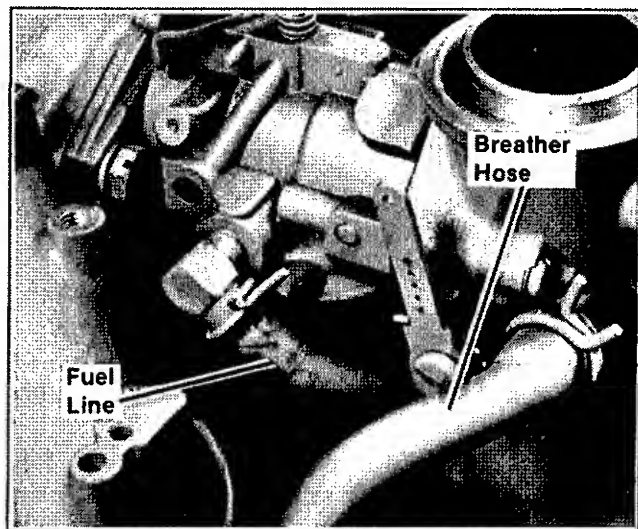

Figure 8-39. Fuel And Breather Hose Connections
2. On some early production KT17 models, — attach breather hose to carburetor elbow with hose clamp as shown in Figure 8-39.
3. Clamp fuel line from fuel pump outlet side to carburetor (see Figure 8-39).